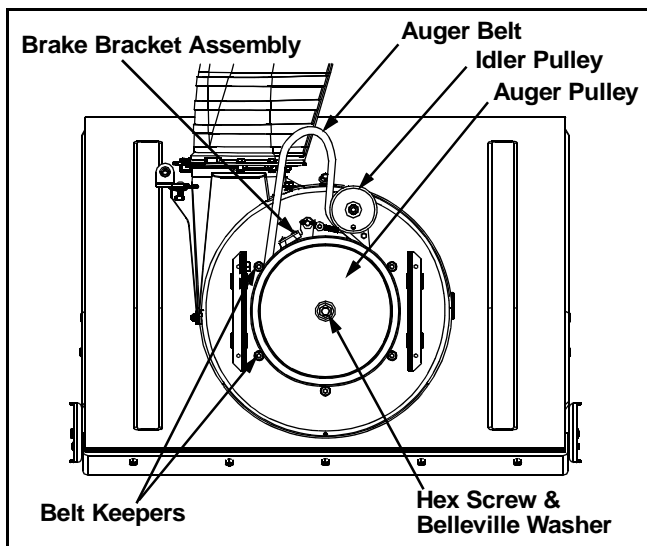

Figure 18
- Using a 1/2" wrench, remove the hex screw and belleville washer from the center of the pulley on the auger housing. Lift the brake bracket assembly out of the pulley groove and remove the pulley. Be careful not to lose the key. See Figure 18.